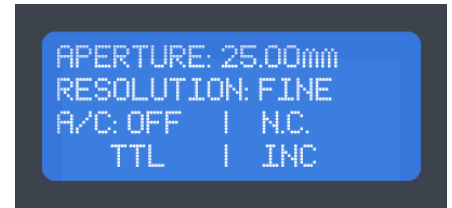

Fig. 21
1. Press the "IRIS INPUT MODE" (  ) button once. Upon pressing this button, the Iris Status screen will indicate the TTL iris input mode that the AIC10 is in. It will read either "TOG" or "INC" (Fig. 21).